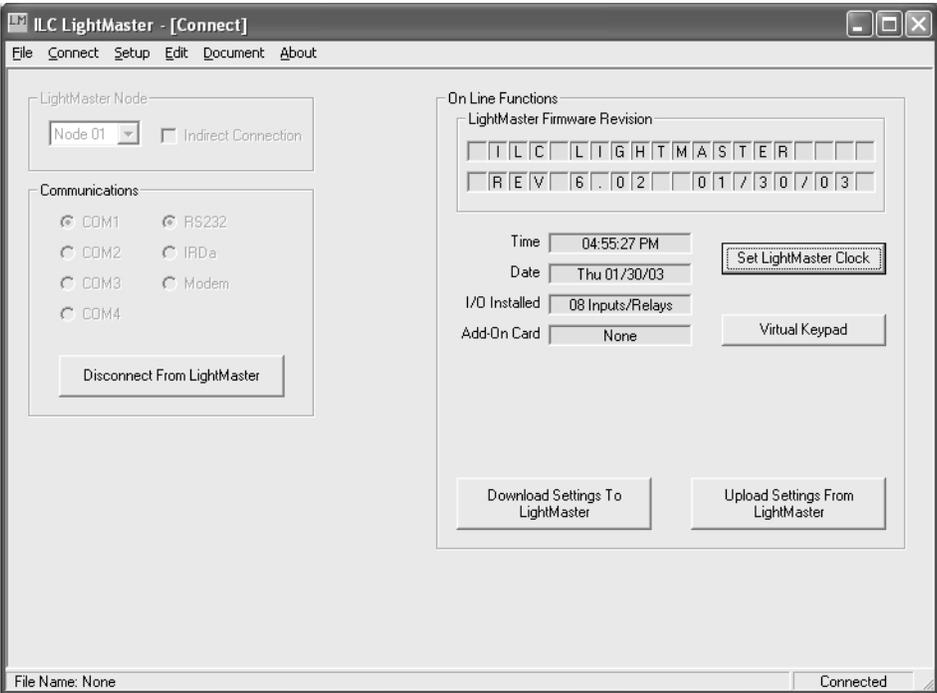

Figure 3-19. Connect Screen after
5. Verify that your PC has the proper date and time for the LightMaster's location. Select **Set LightMaster Clock** to adjust date and time. (See Figure 3-19)